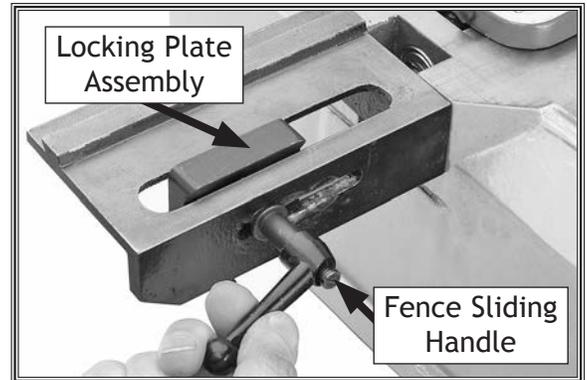

Figure 11. Installing fence sliding handle.
3. Secure the locking plate in position with the fence sliding handle, as shown in **Figure 11**.